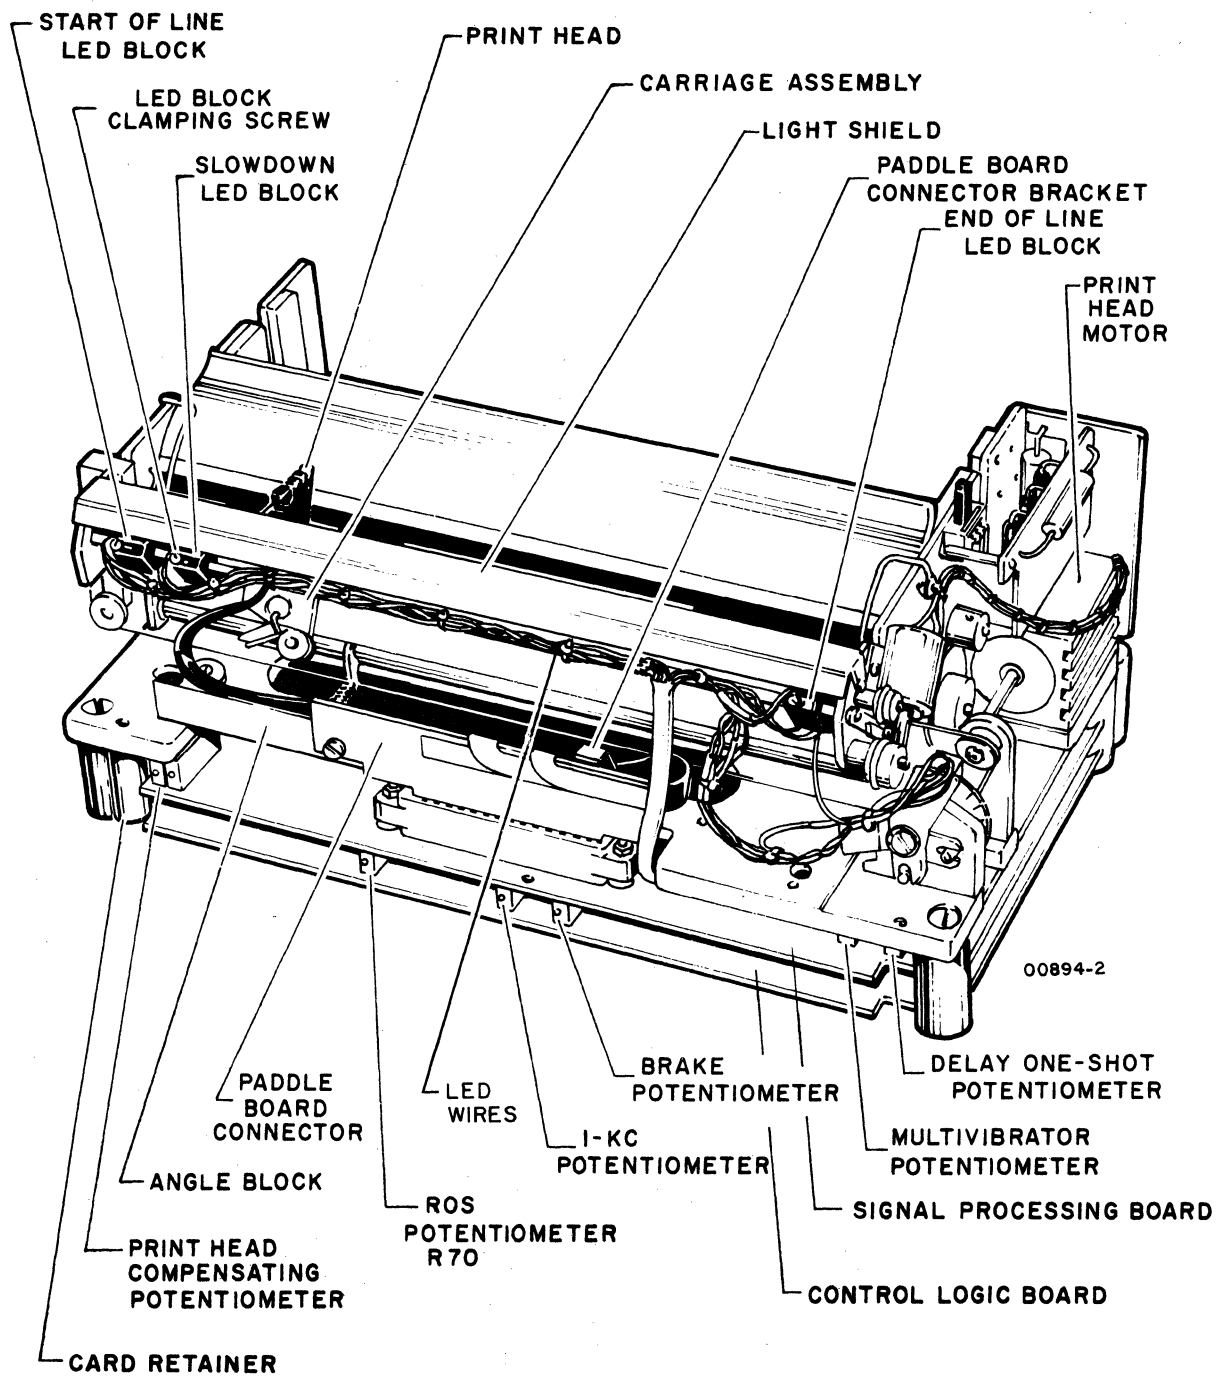

Figure NIP2. Printer, Front View
The 1-kHz oscillator clocks the counter which controls the printer operation timing. Therefore, it is important to ensure that the frequency output is correct. See figure NIP2 for 1-kHz oscillator location and proceed as follows.
During a carriage advance or backspace operation, ROS time is used to reduce the stepping motor winding current to a lower hold level after stepping and braking have occurred. If the ROS time is too short, horizontal print spacing can be affected. During the slowdown portion of the carriage return time, the ROS time determines the time between stepping pulses. Therefore, the slowdown of the printhead during carriage return is affected by ROS timing. See figure NIP2 for one-shot location and proceed as follows.
When NIP cabinet hood is removed as in figure NIP2, check for the possibility of wires from the LED blocks shorting to the front light shield. Wire shorts here may be the cause of those seemingly insolvable intermittent printer problems. To prevent the wires from shorting, add either a couple of layers of electrical tape around and down the length of wires, or add a strip of caterpillar grommet (part number 00845501) approximately 9 inches long, along the sharp edge of the shield. Use RTV (part number 18440201) or similar adhesive to hold the caterpillar grommet in place.
- 7) Alternately adjust brake LED block position and brake one-shot time, until conditions of step 4 are obtained. Adjust brake LED block position by turning slotted-head eccentric. Adjust brake one-shot time by adjusting brake potentiometer at front of control logic board (figure NIP2). Tighten screws.
The purpose of this circuit is to control the heating time of the printhead elements. The heating time is automatically varied by the circuit to compensate for different printing speeds. The purpose of this procedure is to provide an initial setting of the circuit time when printing at maximum speed. Then, when the printer is operable, the time may be readjusted to provide desired print quality. See figure NIP2 and proceed as follows.
This procedure describes adjustments for the positions of the LED blocks associated with carriage return. These LEDs are start-of-line, slowdown, end-of-line, and slew. The LEDs are positioned to provide carriage return operation within the maximum time permissible (200 ms) and minimize printhead oscillation at column 1. This procedure should be performed when any of the carriage return components have been replaced or when any of the LED block positions have been changed. See figure NIP2 and proceed as follows.
- 13) Trigger oscilloscope on CR test point at front of control logic board (figure NIP2) and set trigger to external (+). Connect oscilloscope probe to SD test point.